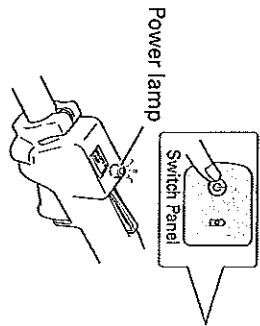

Fig. 25
- Turn on the gardening appliance. (Fig. 25)